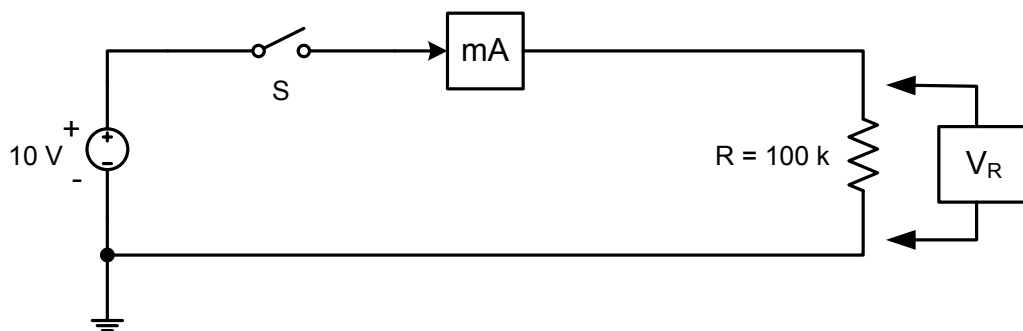

Figure 3.3
Step 2: Connect the circuit shown in Figure 3.3 on the protoboard. Measure the voltage, V_R across the resistor and the loop current, I_1 .